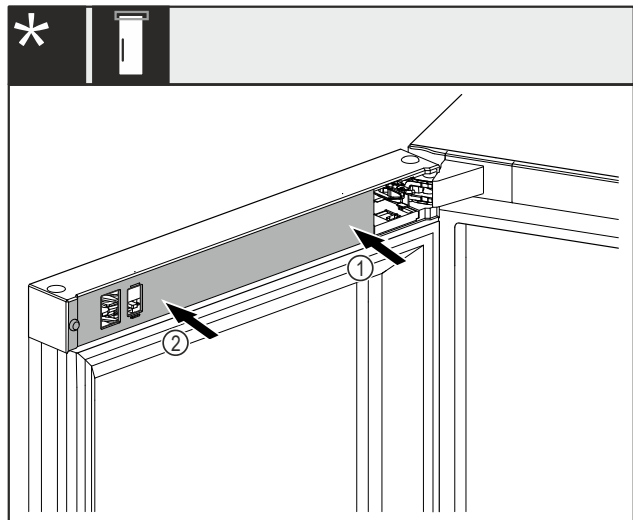

Fig. 48 *
- ▶ Place the cover Fig. 48 (1) on the bearing bracket side first and snap into place.*
- ▶ Fit the cover Fig. 48 (2) on the outside and snap into place.*